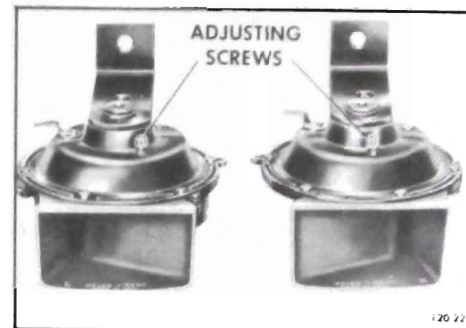

Figure 120-15 - Matched Horn Set
shaft upper bearing and the upper face of the cam engages the steering wheel hub, causing the cam to turn with the wheel. At the outer edge of the cam there is a horn contact ring in a position to depress the horn brush. See Figure 120-15.
3. Adjust to specified current draw if necessary, by turning adjusting screw clockwise to decrease or counterclockwise to increase current draw. Turn only 1/4 of a turn at a time. If adjustment loosens screw excessively, it may be staked with a prick punch. See Figure 120-15.